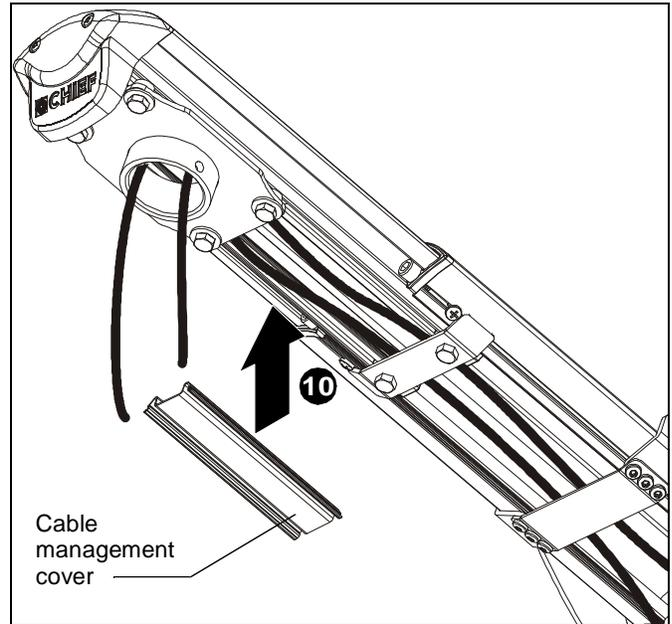

Figure 25
- Replace removed cable management cover (if necessary) by snapping it into place. (See Figure 25)